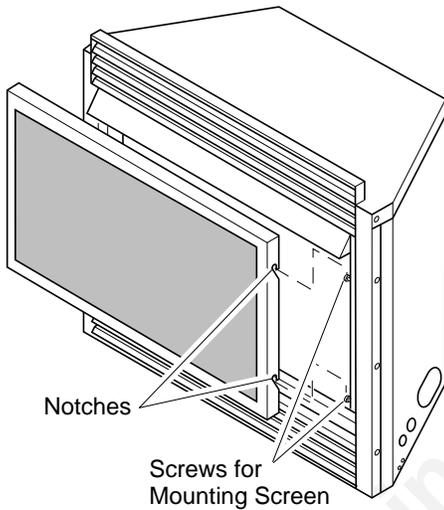

Figure 25 - Installing Fireplace Insert Screen
2. Install fireplace insert screen by slipping notches of fireplace insert screen over screws on front of fireplace insert (see Figure 25).